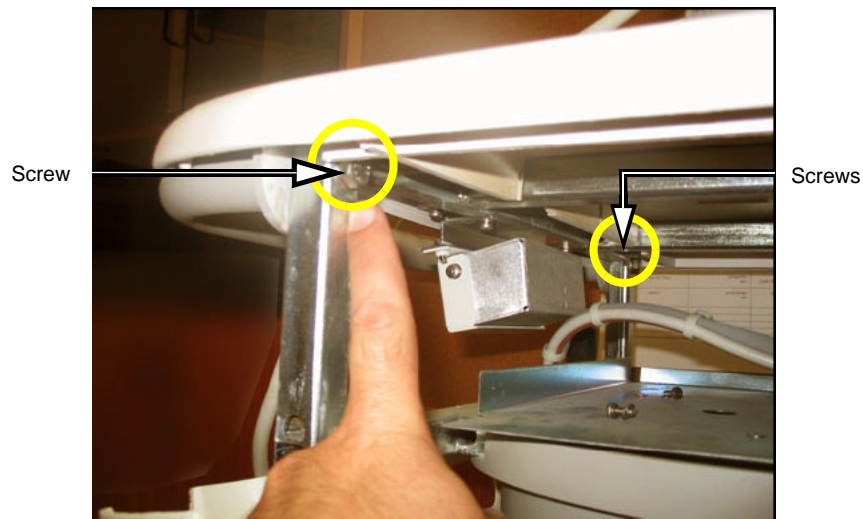

Figure 8-27 Rear Handle Securing Screws
- 4.) Push the VGA connector slightly to allow the control console bottom cover (lower section) to slide down sufficiently to expose the rear handle securing screws (see Figure 8-27 below).
- 5.) Using a combination wrench, loosen and remove the two hexagon-head screws (one on each side) that secure the rear handle to the upper console cover, as shown in Figure 8-27.